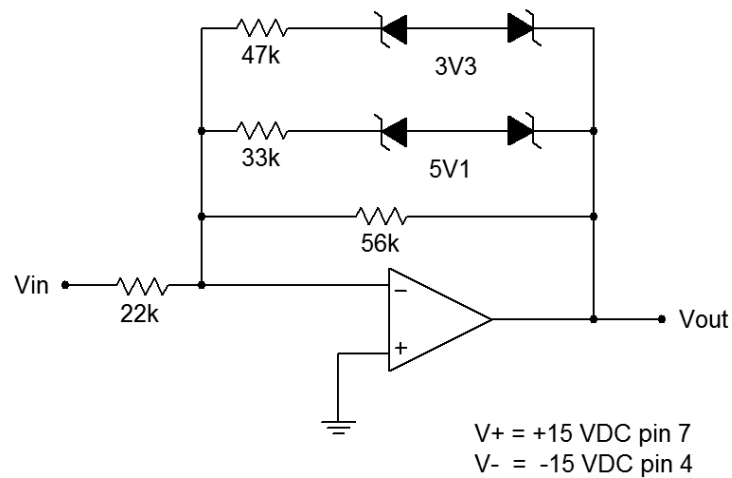

Figure 2
7. Calculate the breakpoints and slopes for the input/output transfer curve of the circuit in Figure 2. Record these values in Table 2.
8. Assemble the circuit of Figure 2.
11. Continuing with the circuit of Figure 2, estimate and then measure the results for each individual error presented in Table 3.
2. What happens in Figure 2 when the 33k Ω and 47k Ω are swapped?